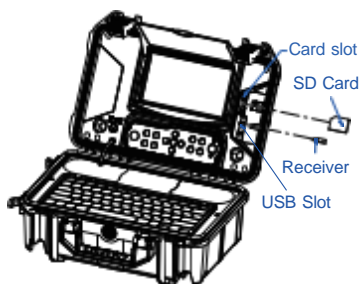

Figure 13. Install SD Card
5. Install SD Card (Figure 13.)